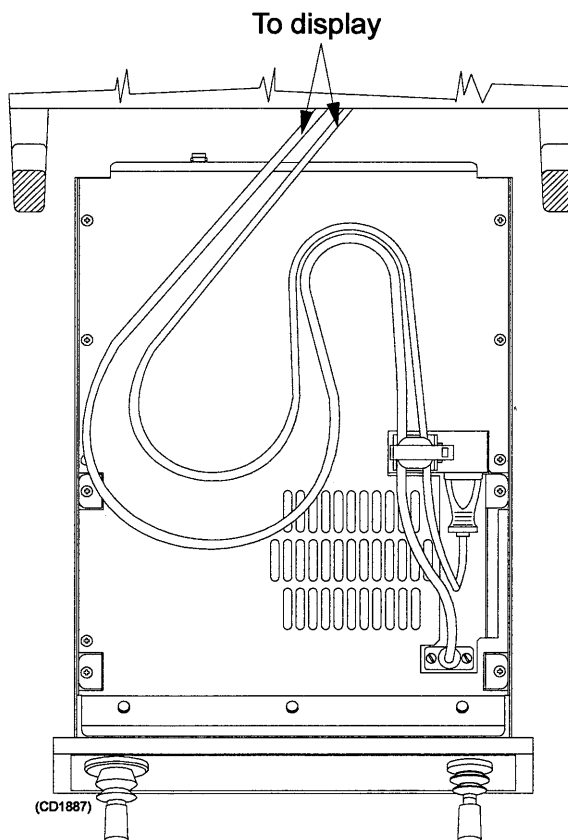

Figure 10 Remounting the electronic drawer unit
- ☐ Refer to figure 10 to reconnect the two display cables.